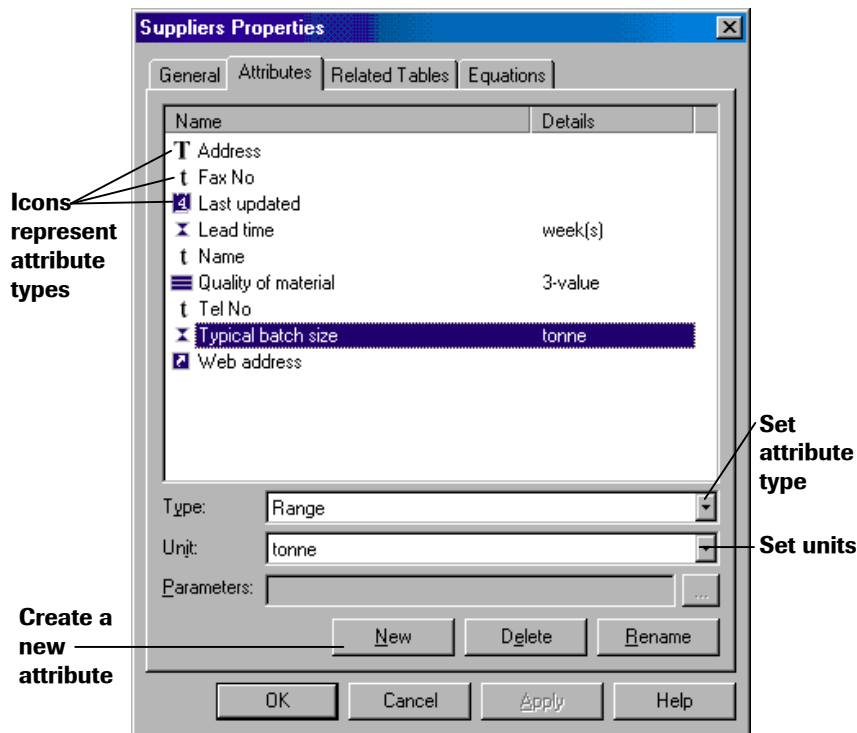

Fig. 10.13 Defining the structure of the Suppliers table.
**Click on the Attributes Tab on the *Suppliers Properties* dialog box (figure 10.13)**
**Enter the name of the new field (eg 'Lead time') in the left column and select the data type (eg 'range') and units where applicable (eg 'weeks') from the list boxes near the bottom of the dialog box, as shown in figure 10.13.**
**Add the remaining attributes as shown in figure 10.13.**
**Open the *Supplier Properties* dialog, as shown in figure 10.13**